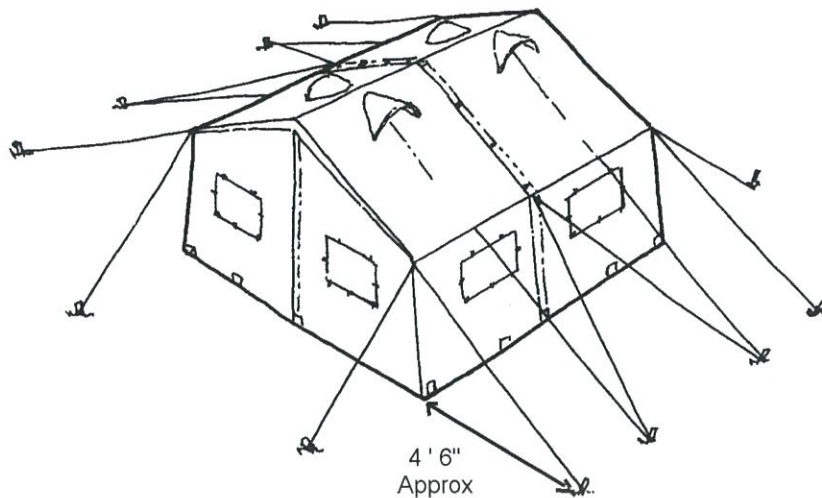

Fig 5-16 — Pin Position and Guy Ropes Layout
35. Line up the wall supports lengthwise on both sides; drive in the tent pins and secure the guy ropes. Starting from one end work down both sides simultaneously (Fig 5-16).